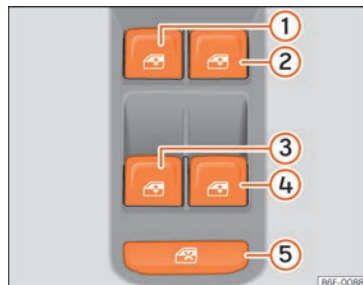

Fig. 89 Detail of the driver's door: window controls.
The safety control »»» Fig. 89 ⑤ on the driver door can be used to disable the electric window buttons on the rear doors.